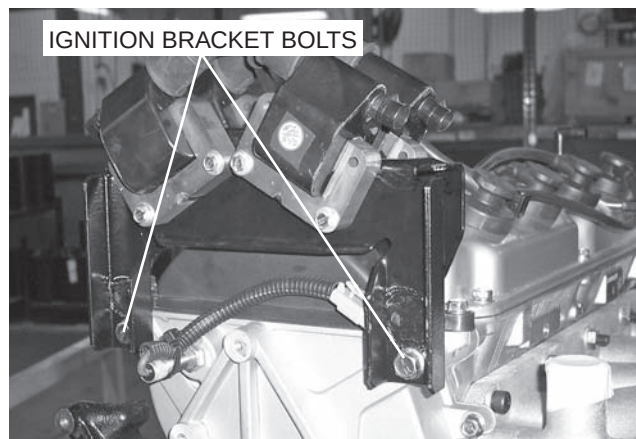

Figure 18
11. Re-install the ignition bracket and bolts with the ignition coils to the side of the timing belt cover. Torque ignition bracket bolts to 17 ft-lbs or 24 Nm (Figure 18).